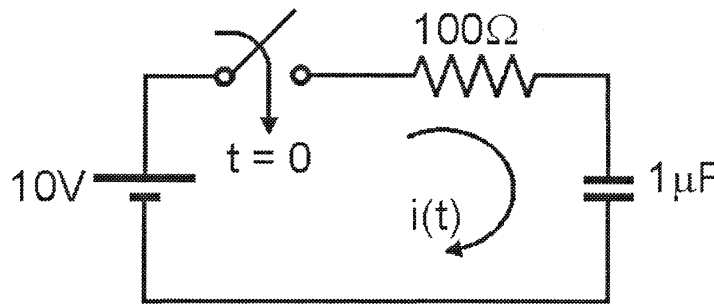

Fig. No.1
- Q1) a)** The switch is closed at $t=0$ for the network shown in Fig. No.1 Find $i(t)$, $\frac{di(t)}{dt}$ at $t=0+$, if the capacitor is initially uncharged. [6]